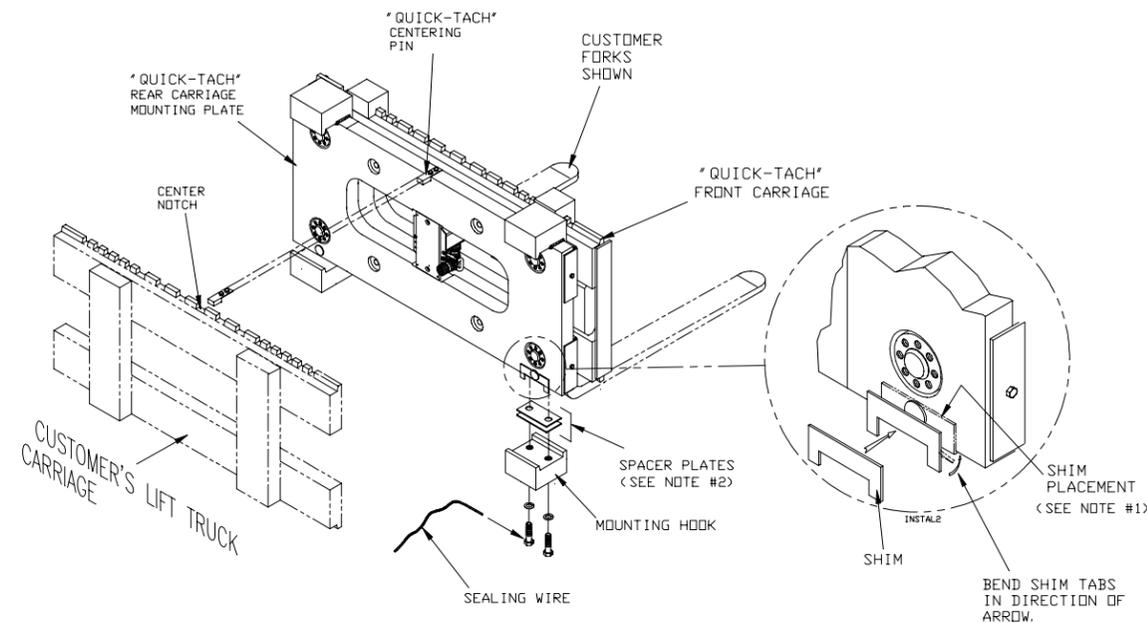
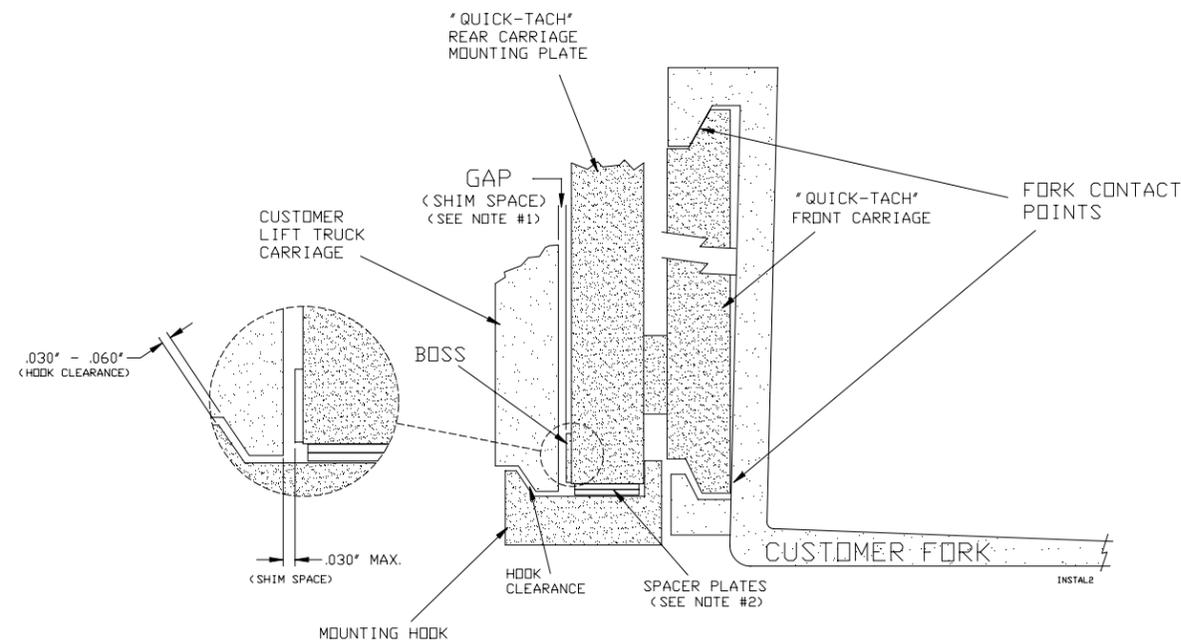

FIG. 1
FIG. 2
- Remove the two mounting hooks and washers bolted to the bottom of the Quik-Tach carriage (*see Figure 1*). The hooks secure the scale to the lift truck and will be reattached after the scale is properly positioned.
NOTE #1: (See Figure 2) Make sure the bosses on the Quik-Tach carriage make contact with the customer's lift truck when both forks are seated. If there is more than .030" gap between the Quik-Tach and the customer's lift truck carriage (*see Figure 2*) when the forks are seated, use the included shims as needed to close the gap on either end, then bend over the tabs to hold them in place as shown in *Figure 1*. There are three shim thicknesses (.035", .048", .059"). If you have to stack more than two shims on either end, your carriage is bent and needs to be fixed or replaced.
NOTE #2: There must be 0.030" to 0.060" space between the customer's lift truck carriage and the mounting hooks of the Quik-Tach scale. See Hook Clearance in *Figure 2*. These parts must not touch or the scale won't weigh correctly. Use the spacer plates as needed to be sure this space exists. Also be sure that the customer's lift truck forks contact the scale only at the positions shown in *Figure 2*. Repair or replace the forks if they are bent or have protrusions which contact the face of the scale.